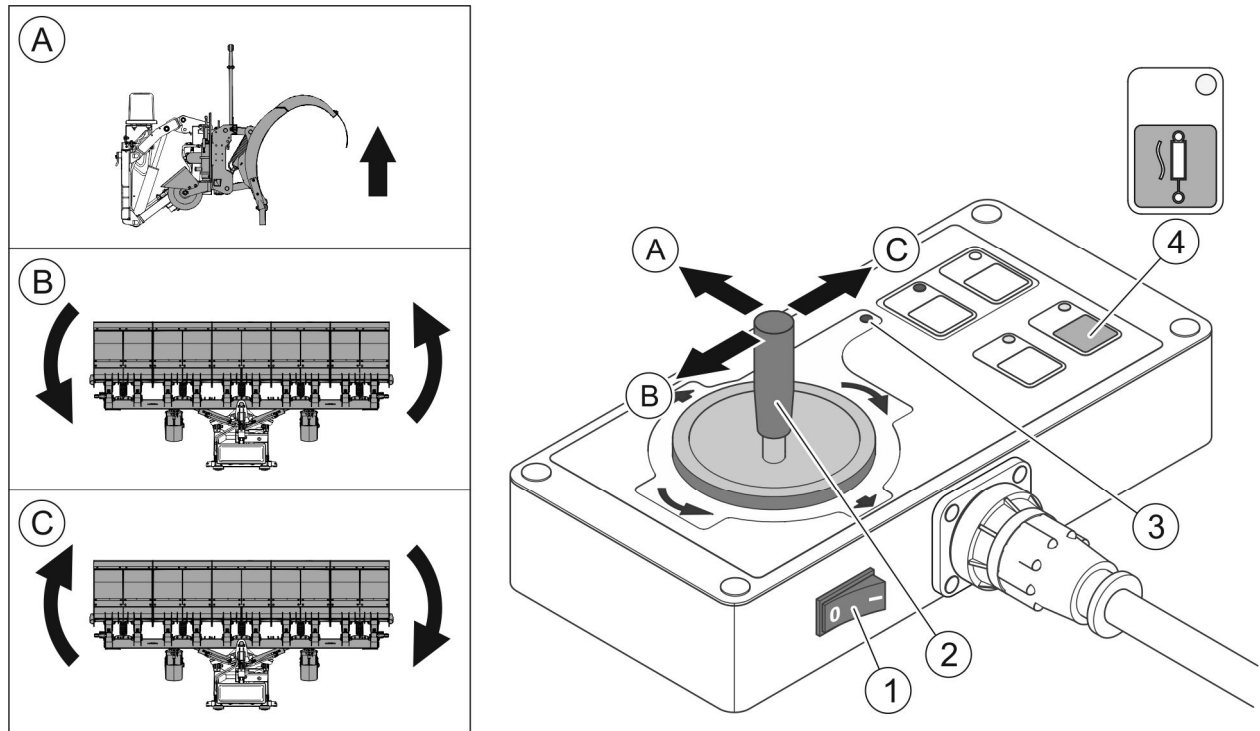

FIGURE 4.16 Control panel - changing the mouldboard working position.
In the snowploughs equipped with the hydraulic system with one pair of quick couplers or Power-Pack electro-hydraulic power supply, the working position change is performed by means of the control panel (FIGURE 4.16).
In order to change the snowplough's working position, the control panel should be active (main switch (1) (FIGURE 4.16) should be set to position „I” - ON). Plough mouldboard position is changed by means of joystick (2). When the multifunction lever is set to the left position (B), the mouldboard turns to the left. When the multifunction lever is set to position (C), the mouldboard turns to the right. The plough lifting takes place when the multifunction lever is moved forward to position (A). The snowplough's mouldboard can be lowered only by switching on the floating function by means of floating function switch (4). When the multifunction lever is set to position (A), (B) or (C), the indicator light (3) lights up to indicate that the control panel is active and Power-Pack electro-hydraulic power supply is working.